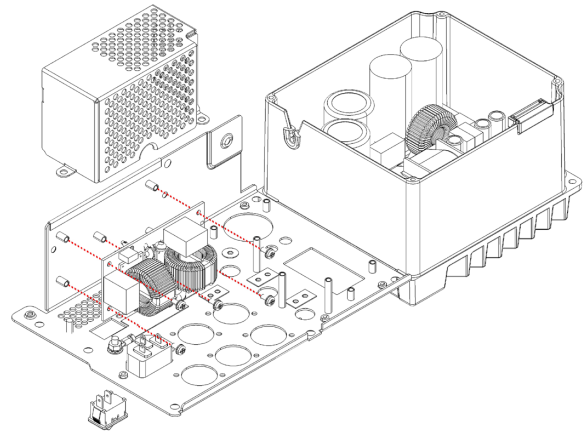

Figure 6.5.2 - AC line filter board assembly to amplifier chassis
8. Remove the 5 machine screws that secure the board to the chassis standoffs as shown in Figure 6.5.2.
3. Fasten the 5 machine screws that secure the board to the standoffs as shown in Figure 6.5.2.